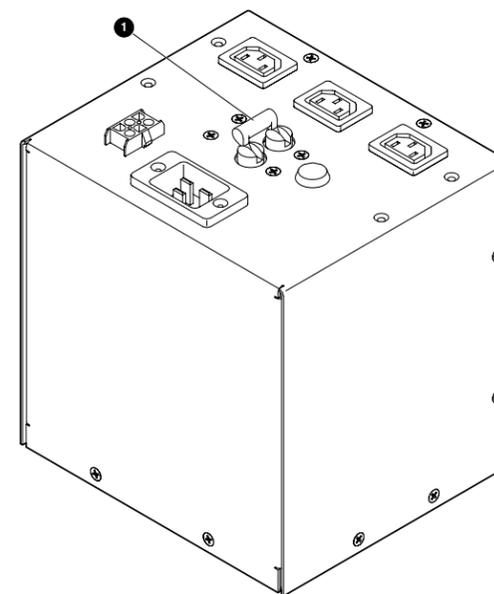

Figure 2: AC power distribution assembly
12. On the top of the AC power distribution assemblies, set the CB-1 switch 1 to the off position (see Figure 2).
2. Set the CB-1 switch on the top of the AC power distribution assembly to the on position (see Figure 2).